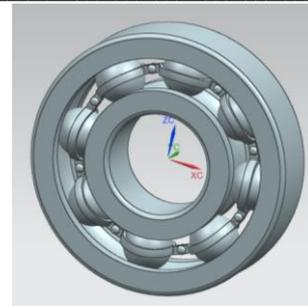

Figure 6.3
f) We enter the **Pattern Component**. Select the rivet on the **Select Component**, the vector perpendicular to the wallpaper on the **Specify Vector**, and the circle of the wallpaper on the **Specify Point**, type **Count** to 8, type **360/8** to **Pitch Angle**, and click **Ok**. The rivets on the bearing also take their place. As a result, the bearing is formed in the fully assembled view in Figure 6.3.